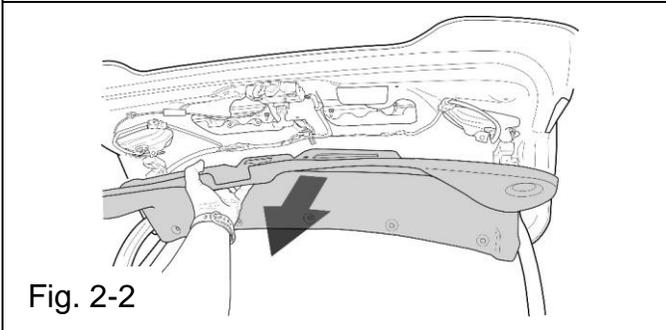

Fig. 2-2
- b) Remove the interior decklid panel to expose the inside area of the decklid (Fig. 2-2).
- a) Remove four (4) M6 nuts from the existing spoiler inside deck lid.